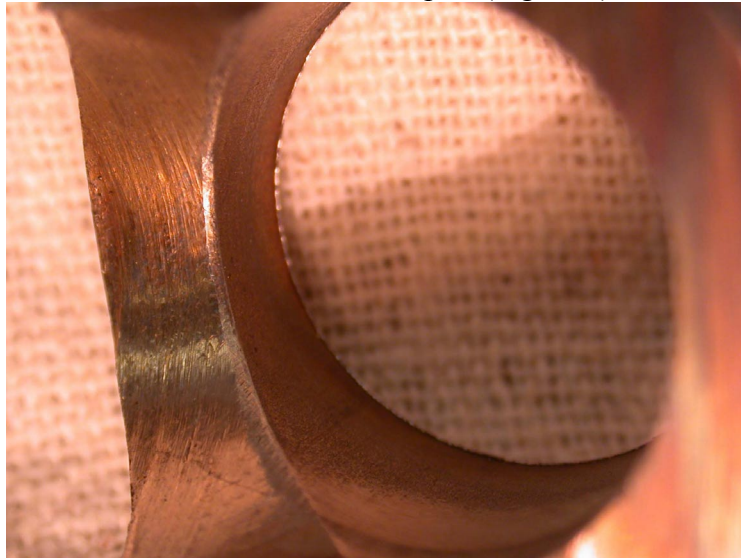

Figure 8
13. Remove part from chuck and inspect (Figure 8).